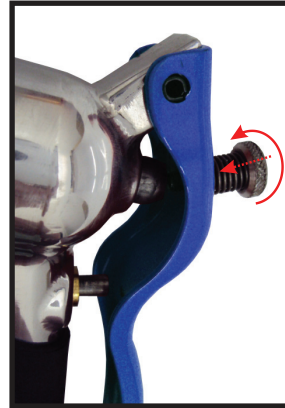

Fig. 2
Step 2 - Adjusting the Trigger Handle Turn thumbscrew clockwise until it stops. (Fig. 2)